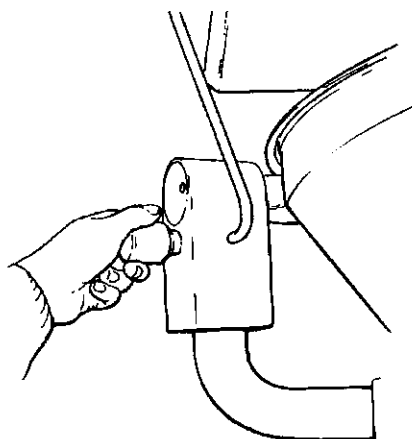

Fig. 4-3
- Pull the cleaning shut-off plug off the standpipe and put it on the holder on the hopper hinge (Fig. 4-3).